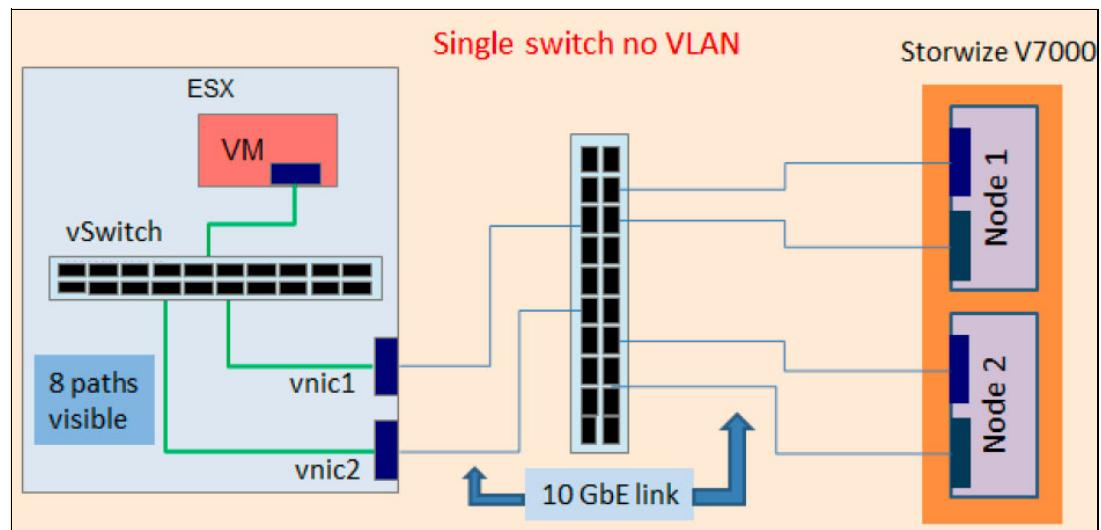

Figure 6-3 Single subnet configuration1
Figure 6-3 shows the same subnet configuration, where only one switch connects the ESX with the IBM Storwize V7000 storage system. This configuration has the following challenges and impact on iSCSI performance:
- ▶ Network bottleneck (traffic storm): In Figure 6-3, a total of eight paths are visible. If massive reads are made from ESX, every path sends the data back, exhausting the network resources and potentially causing the switch to drop packets.
Figure 6-3 shows a single subnet configuration.